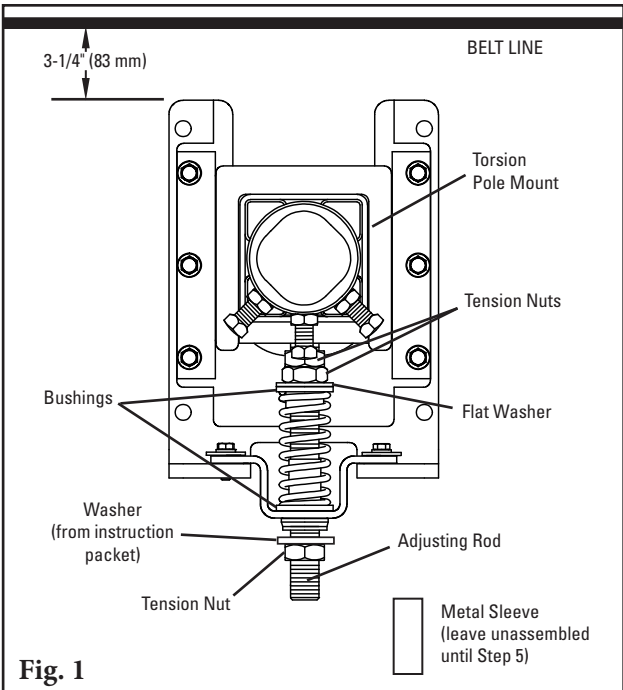

Fig. 1
1. **Reconfigure the standard pull-up tensioner to the push-up style.** Remove the 3 tension nuts, the flat washer, 2 bushings, the spring, the sleeve and the hat bracket; reassemble (Fig. 1) with 2 tension nuts, the flat washer, 2 bushings, the spring and the hat bracket on the upper end of the adjusting rod. Add washer (from instruction packet) and 3rd tension nut to bottom of adjusting rod.
2. **Install the tensioner mounting bases.** Mount the bases to the structure or chute so that the tops of the base legs are 3-1/4" (83 mm) below the belt (Fig. 1).